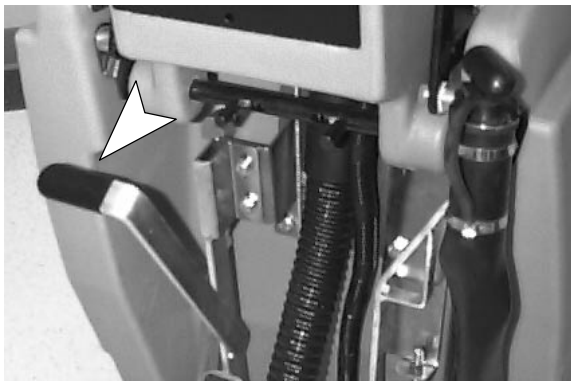

FIG. 15
2. If more scrubbing pressure is needed for small heavily soiled areas, simply pull brush lift lever upward while operating (Figure 15).